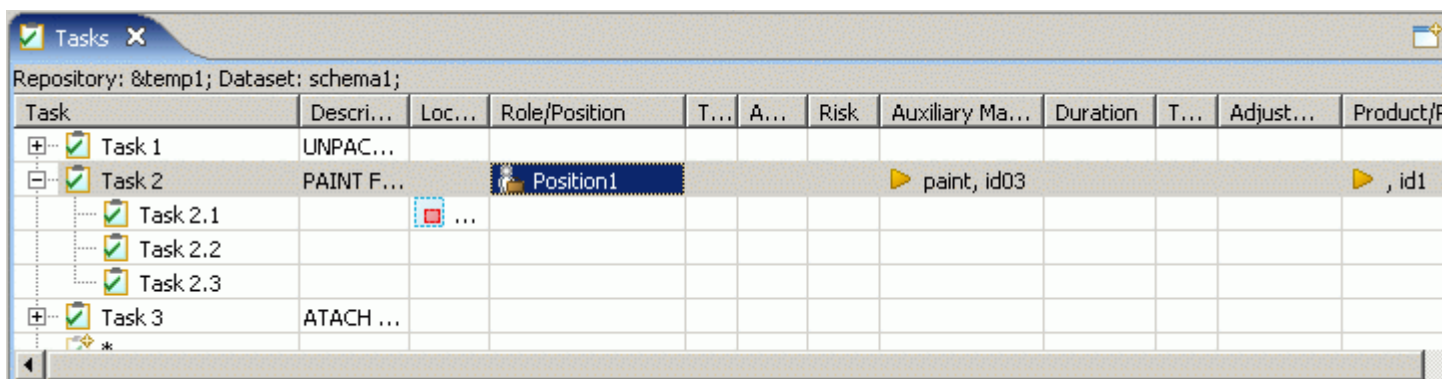

Figure 3. Selected position assigned to task
- Release the mouse button when you have the selected object in the desired location. The object you've selected is added to the **Role/Position** column of the desired task in the **Tasks** window tree table (see Figure 3).